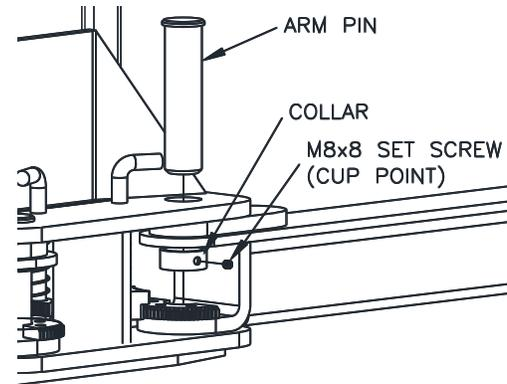

Fig. 11 –Arm Install
33) Lubricate the arm pin or carriage arm pin hole with “anti-seize” and install the arms as shown in **Fig 11**. Once the set screw is finger tight against the arm pin, tighten 1/4 turn with hex key.